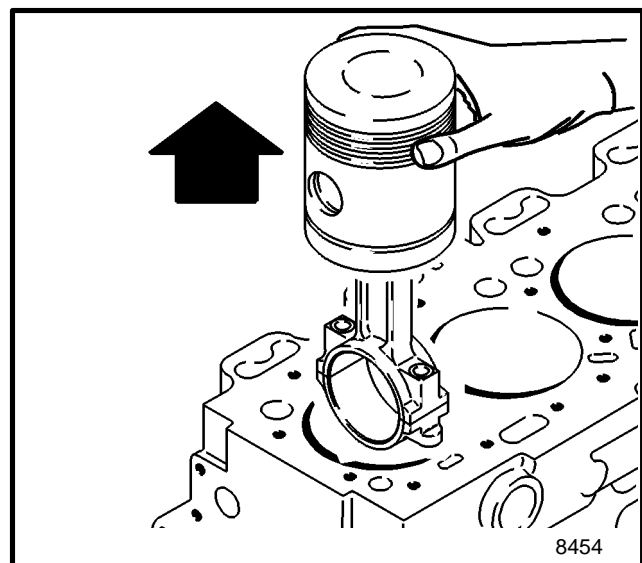

FIGURE 17. REMOVING THE PISTON AND CONNECTING ROD
4. Push the piston and connecting rod away from the crankshaft. See FIGURE 17. Be careful so that the bolts for the connecting rods do not touch the crankshaft and damage the bearing surface.